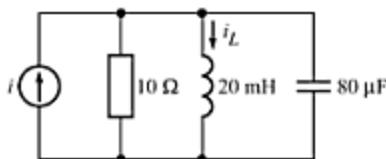

Fig. C-56
- C-86. The current source $i = 4\sqrt{2} \sin(400t - 10^\circ) \text{ A}$ in Fig. C-56. Use current division concept to find current i_L in the inductor for the circuit.